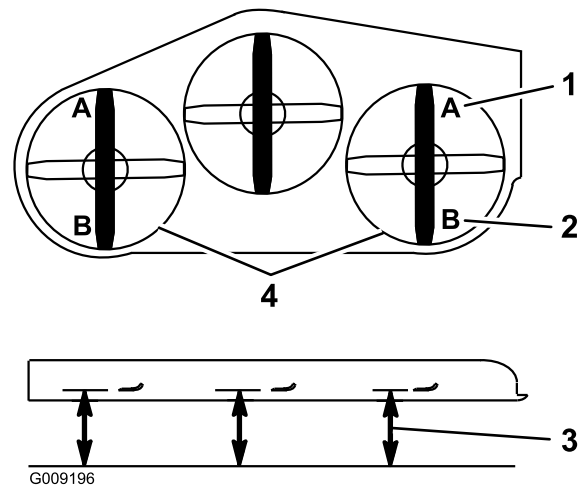

**Figure 96**
5. Push the deck-lift pedal all the way forward and the deck latches at the 14 cm (5-1/2 inches) transport position (Figure 96).